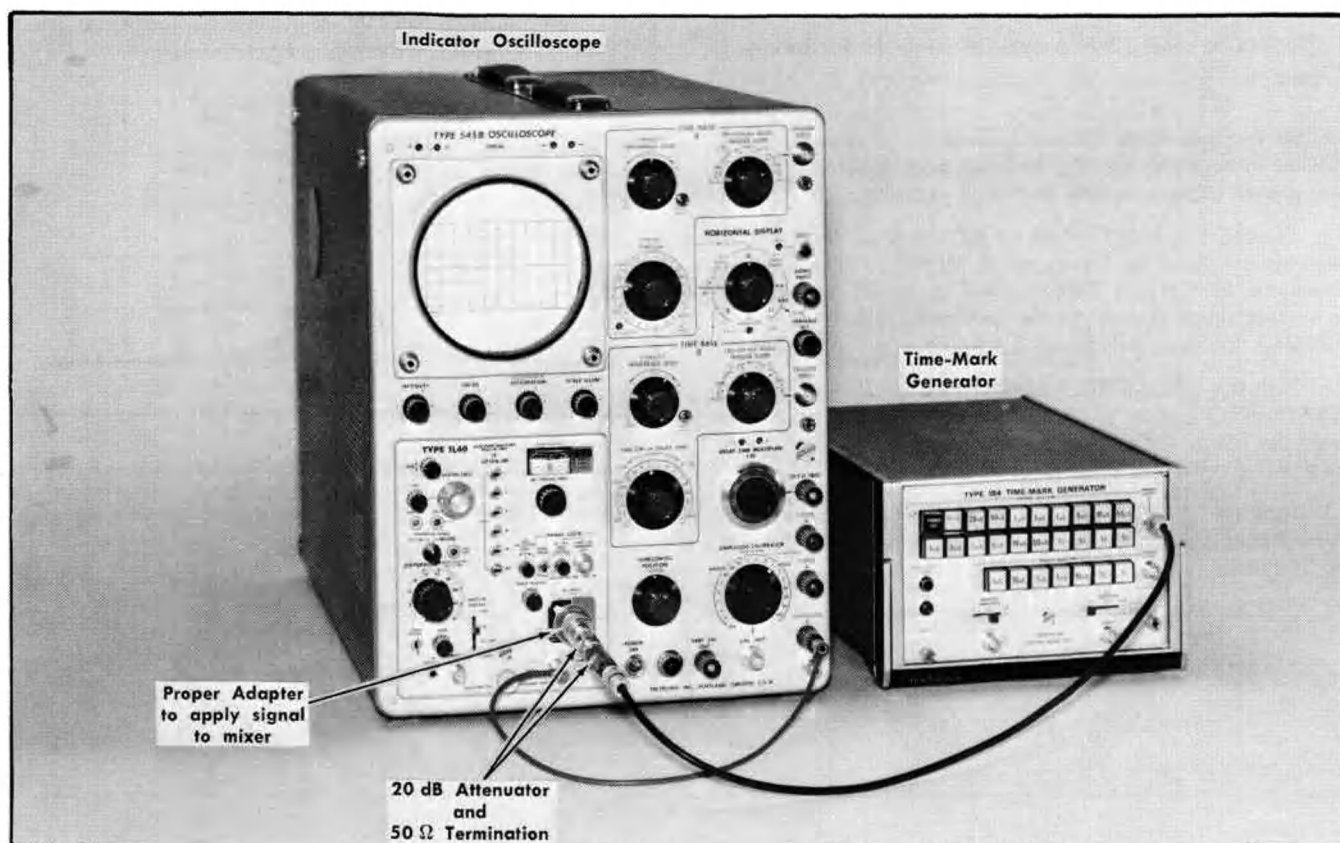

Fig. 5-20. Equipment setup for checking incidental FM.
- Equipment setup is shown in Fig. 5-20.